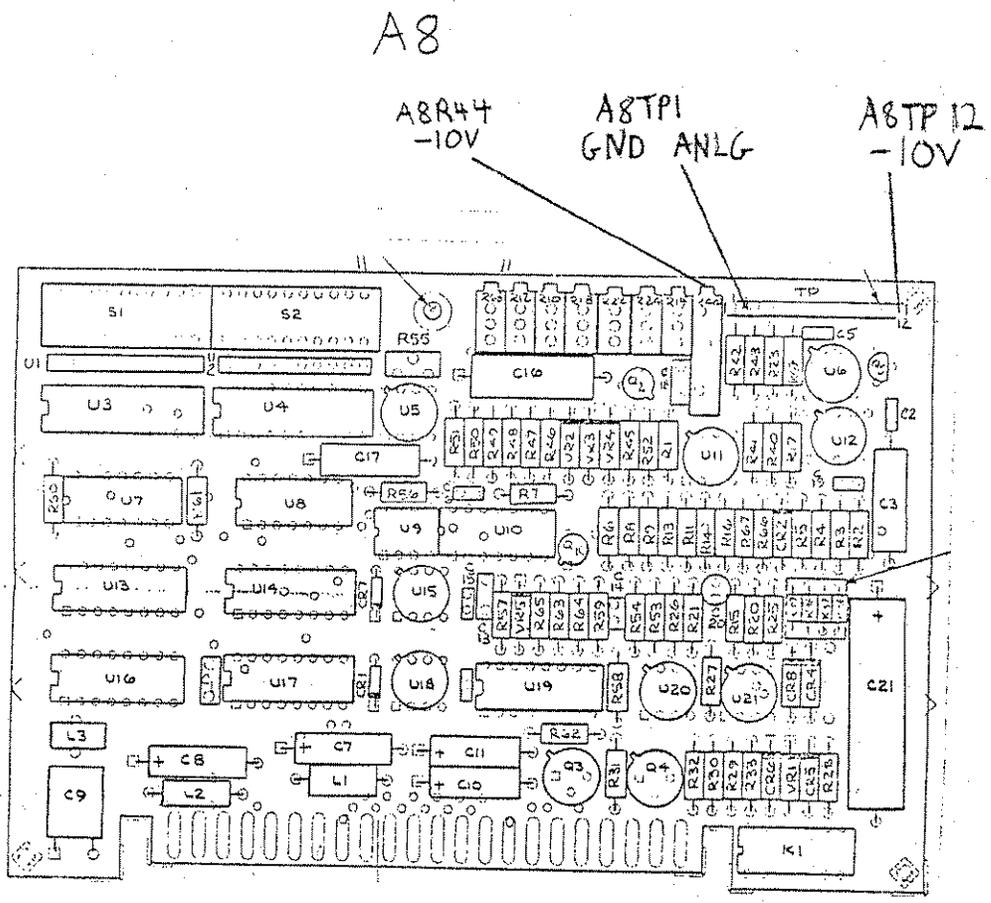

Figure 5-3, -10V Reference Adjustment Location
2. Adjust A8R44 -10V for a DVM reading of -10 ± 0.001 Vdc. Refer to Figure 5-3 for -10 volt reference adjustment location.